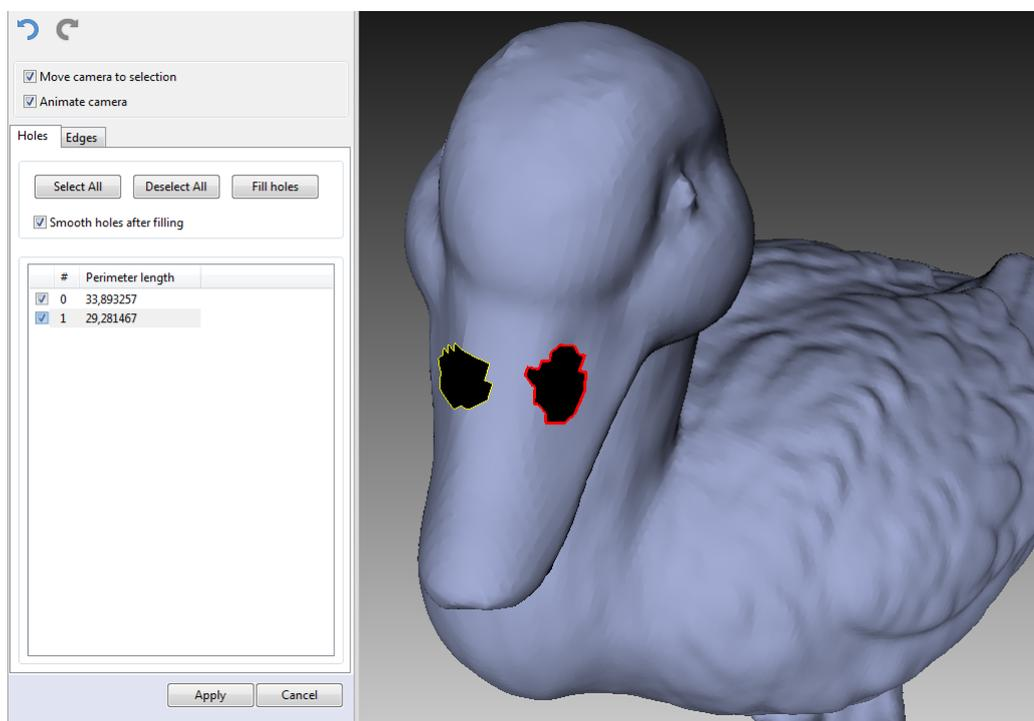

Figure 89: Two holes marked for correction.
3. Select a hole either in *3D View window* or mark the checkbox next to it in the list. Artec Studio will highlight these holes in red (see Figure 89).